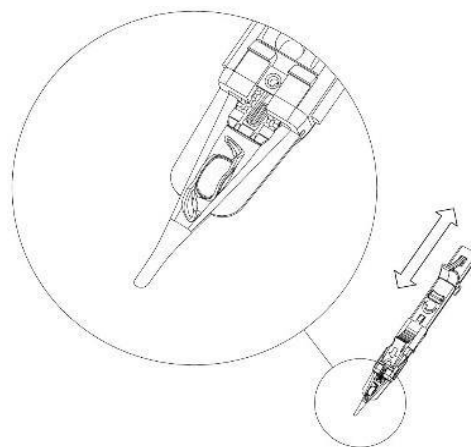

Fig. 7
10. Once the IOL reaches the “cartridge wings” as shown in Fig. 7, stop pushing and pull the plunger back to the end. Push the plunger again to remove any air from the nozzle. Enter the eye and then continue pushing slowly. If you experience too much resistance at any phase of the injection, or you can see a part of the haptic trapped between the red soft tip and the cartridge wall, pull the plunger back a few millimeters and then push it again.